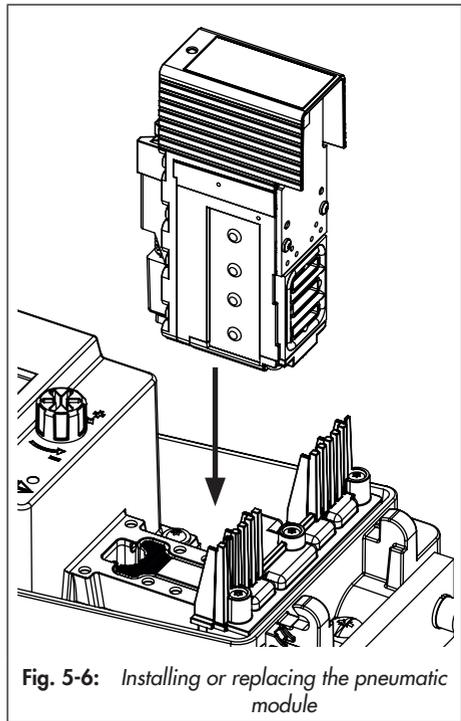

Fig. 5-6: Installing or replacing the pneumatic module
4. Install the module as shown in Fig. 5-6. Press the module toward the display and insert it along the wedge.